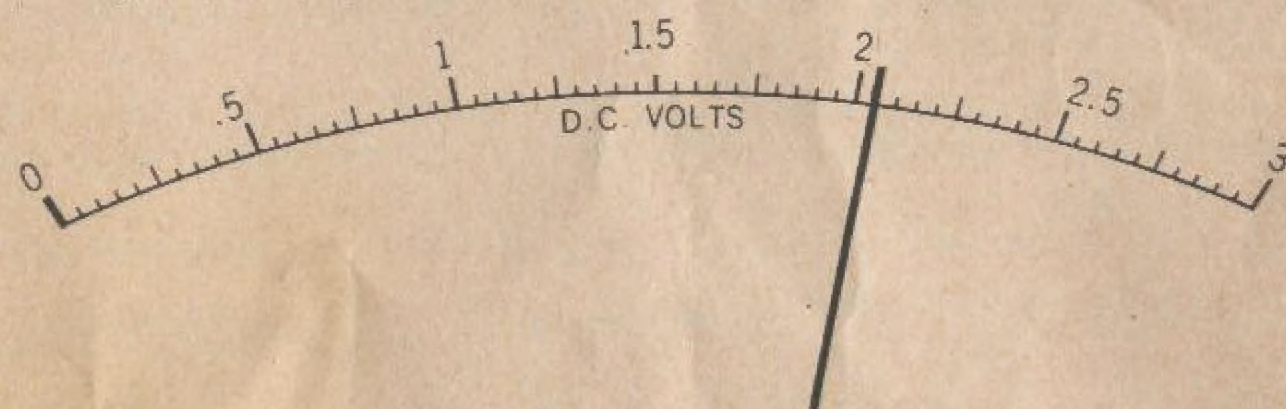

Figure 3—3V D.C. Scale
5. The lowest D.C. range is 3 volts D.C. full scale. Each division on this scale represents .05 volts. Fig. 3 shows this scale with the pointer at rest on the first small division above 2 volts. Therefore, the meter reads 2.05 volts.